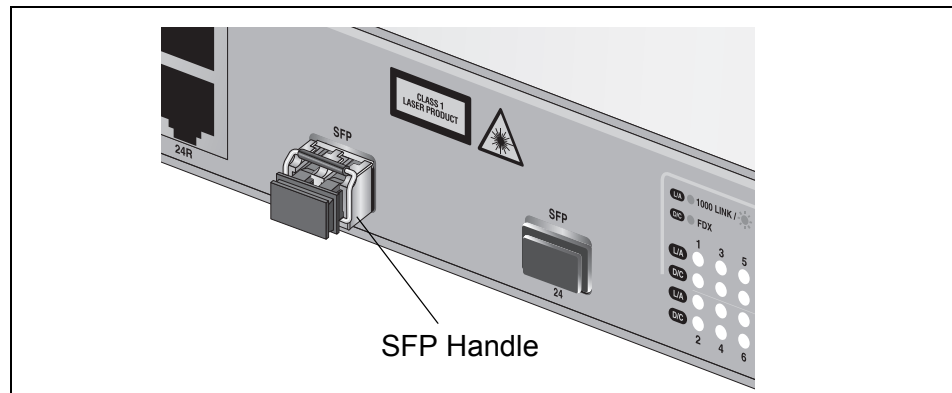

Figure 34. Positioning the SFP Handle in the Upright Position
5. Verify that the handle on the SFP transceiver is in the upright position to secure the module in the slot, as shown in Figure 34.